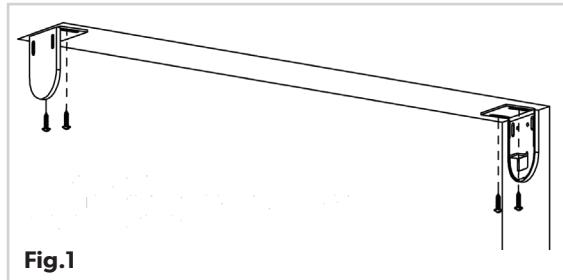
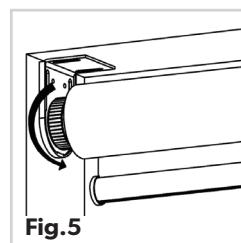

Fig.1
Fig.5
Your Easy Release™ Outdoor Roller Shade can either be hung from the top of a surface (i.e. window frame, Fig 1) or side mounted on the inside surface of a wall, patio or porch (Fig 5). Regardless of how you choose to install the shade, the installation instructions remain the same.
3. Mount the installation brackets to the ceiling or wall using the wood screws provided. (Fig.1)
8. Then, lock the shade in place by rotating the wheel on the left 90 degrees in a downward direction (Fig 5)